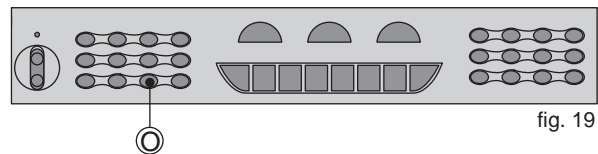

fig. 19
1. Press the Guide (O) and then press the white key to select the melody in performance. The main melody will then be masked but is restored if you don't play for three seconds. **See fig. 19**